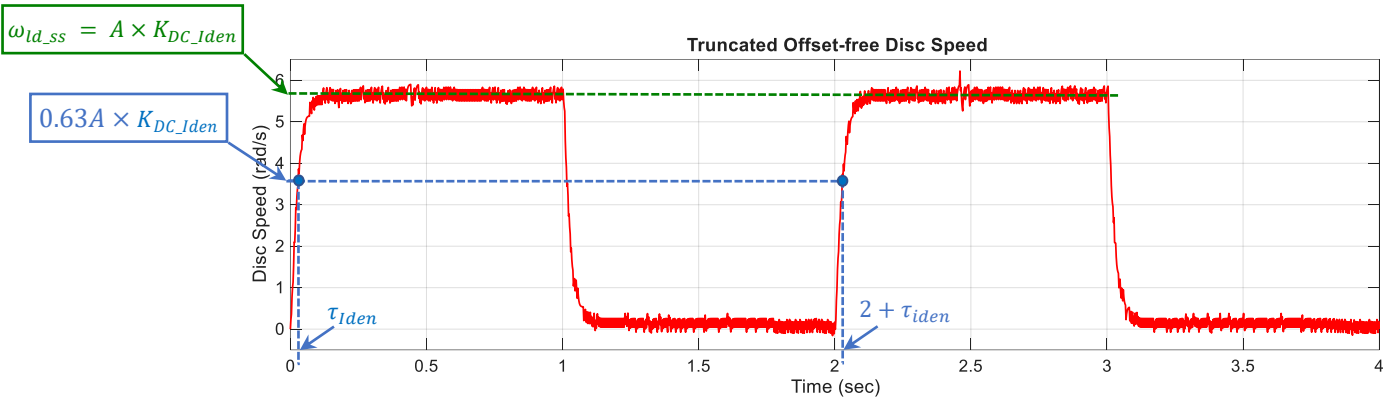

Fig. 2-8. Finding proper DC gain and time constant for a 1st-order model from step response.
- Use the **Step Response Modelling** method to **determine** the **DC gain** K_{DC_Iden} and **time constant** τ_{Iden} for the **1st-order DC motor transfer function model**, as shown in Fig. 2-8.
Hint: To estimate the steady-state value (final value) of the speed measurement $\omega_{Id,ss}$, the method used in the Pre-Lab 1 will be useful. You can use either the first or the second transient to find the final value and time constant, as shown in Fig. 2-8. A is the **amplitude** of the **step input signal** (this is the voltage amplitude in Fig. 2-7(a), or step voltage change in Fig. 2-5(b)).